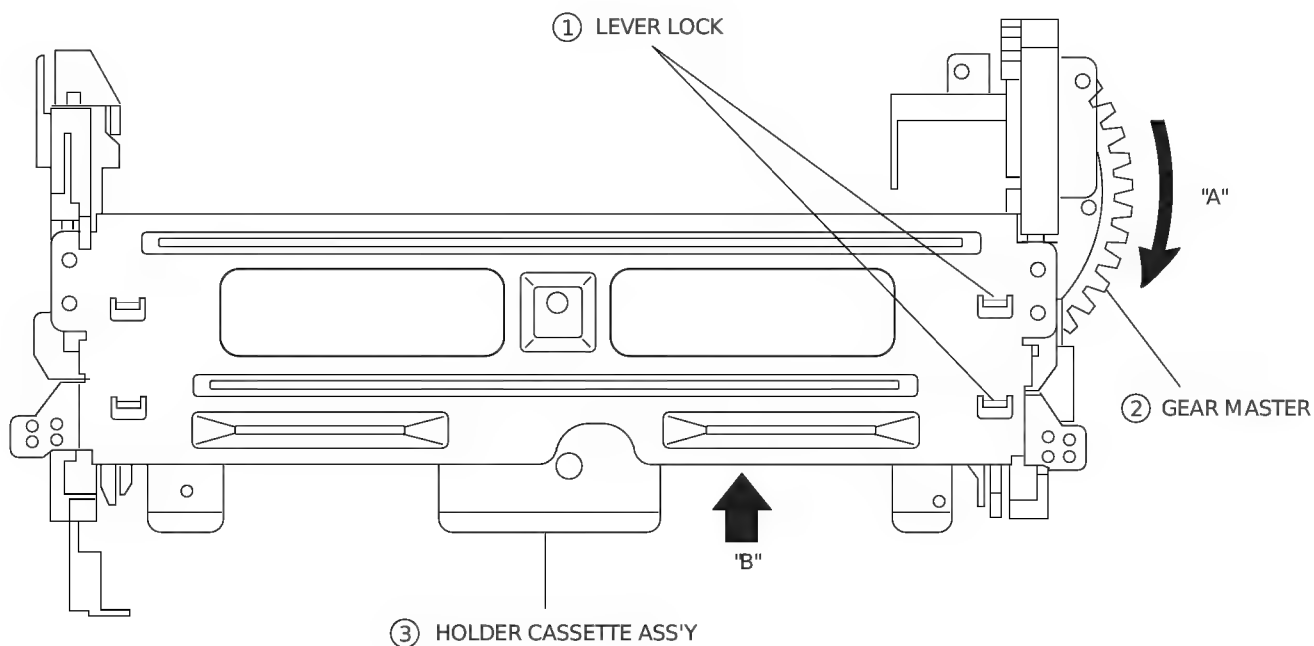

Fig.1-60 How to operate the Housing Ass’y
1. Push 4 Lever Locks ① of the Housing Ass’y Simultaneously. (Refer to Fig. 1-60)
2. Push the Cassette Ass’y Holder ③ toward arrow “B” while turning the Master Gear ② toward arrow “A”. (Refer to Fig. 1-60)
3. Load the Loading L, R Gear Ass’y ④, ⑤ to the middle position of Guide Rail by turning the Master Gear ② toward arrow “A”. (Refer to Fig. 1-60, 1-61)